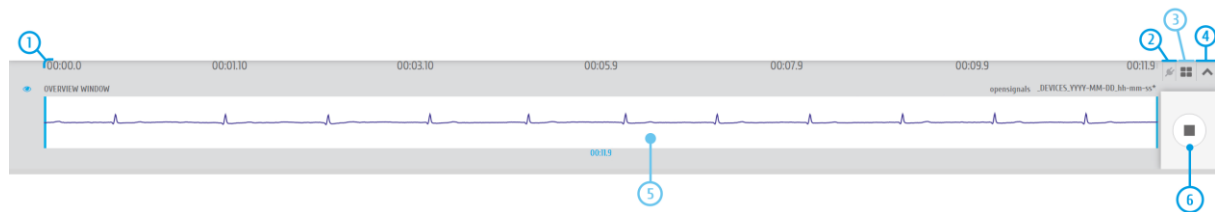

Figure 83: Control bar.
- Time axis (x-axis; 1 in Figure 83)
- Access *OpenSignals (r)evolution* add-ons (2 in Figure 83)
- Multi-channel visualization modes (3 in Figure 83)
- Hide/Unhide all channels (4 in Figure 83)
- Overview window (x-axis adjustments; 5 in Figure 83)
- Return to *OpenSignals*' main interface (6 in Figure 83)